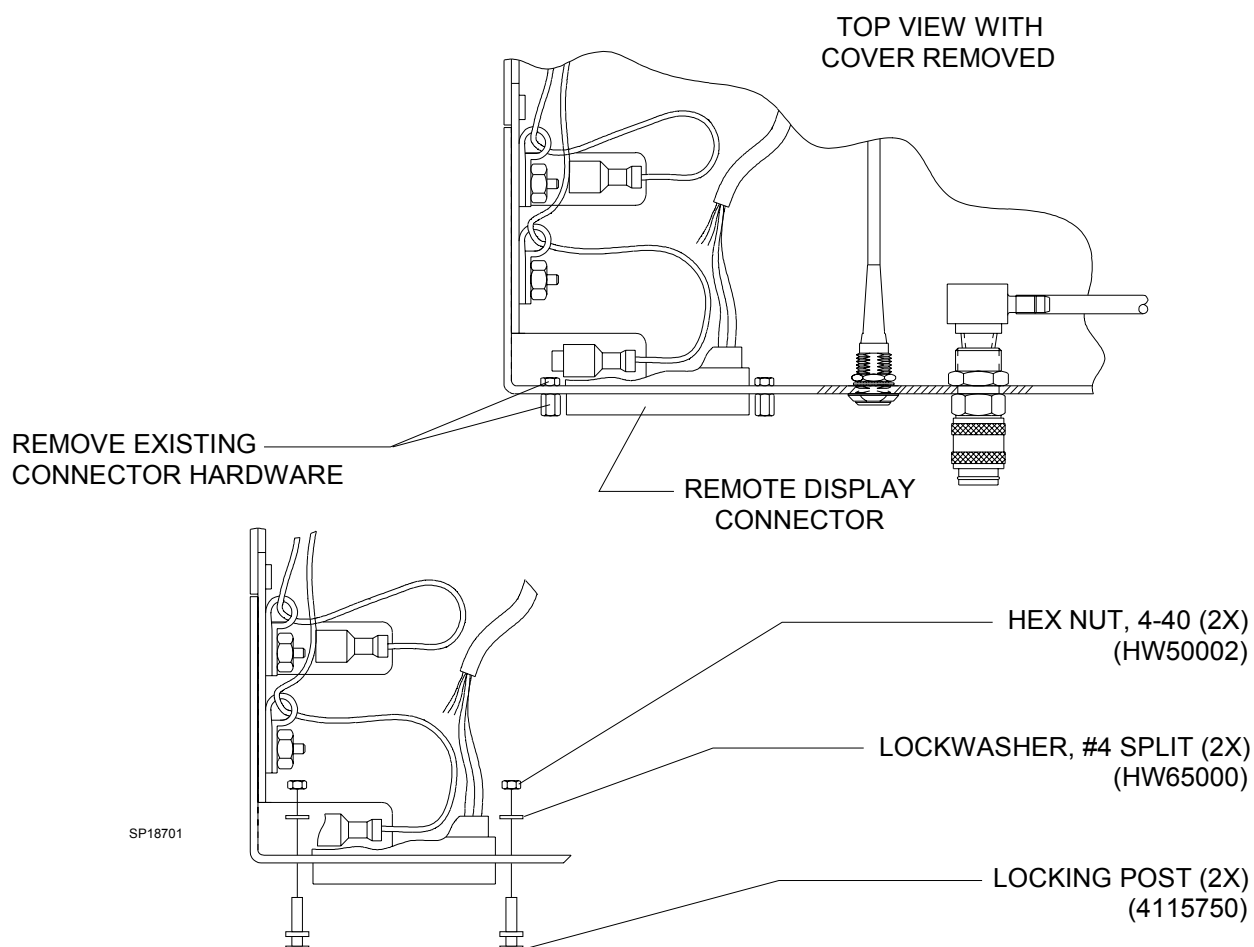

FIGURE 1. Locking Post Installation
4. Remove the existing hardware securing the connector to the machine. See Figure 1.
5. Mount the connector to the machine using the locking posts, lock washers and hex nuts supplied in the kit - as shown in Figure 1.